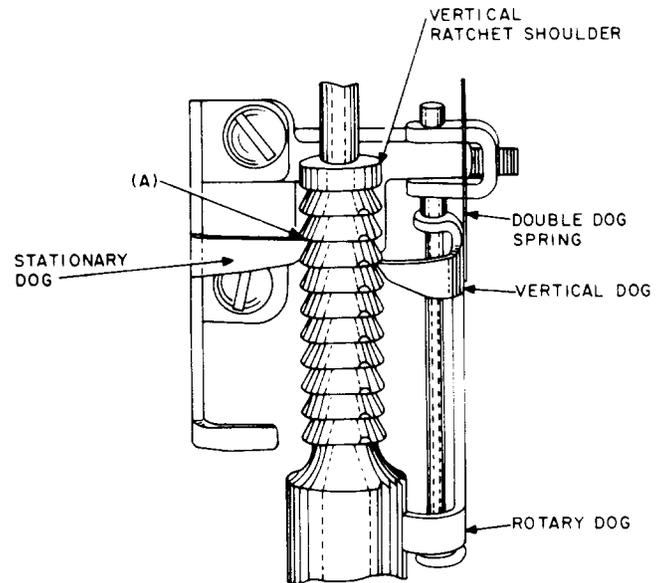

Fig. 24—Relation of Stationary Dog to the Vertical Ratchet
- (a) With the shaft on the second rotary step of the first, fifth, and tenth levels and the double dog disengaged from the shaft, it shall be possible to move the shaft vertically, but this movement shall not exceed 0.010 inch. Gauge the minimum value by feel and the maximum value with the 92A gauge as described in (c). (See Fig. 24, location A.)
- (b) With the switch on the second rotary step (Fig. 24, location A) and with the double dog held away from the shaft, it shall be possible to move the shaft vertically, but this movement shall not exceed 0.010 inch.